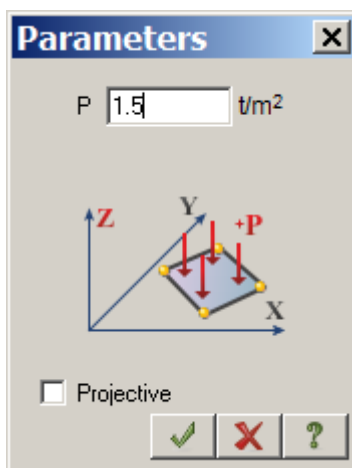

Figure 11.19 Load parameters dialog box
- ⇒ In the **Load parameters** dialog box specify  $p = 1.5 \text{ t/m}^2$  (see Figure 11.19).